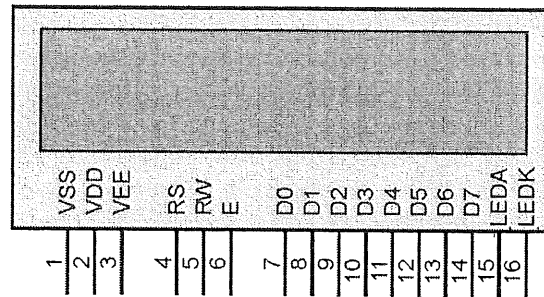

Figure 1: LCD pin out
- a) Figure 1 shows the pin out of the 16x2 LCD. Describe the function of VSS, VDD, VEE, RS, RW, E and data bus (D0-D7) at LCD.